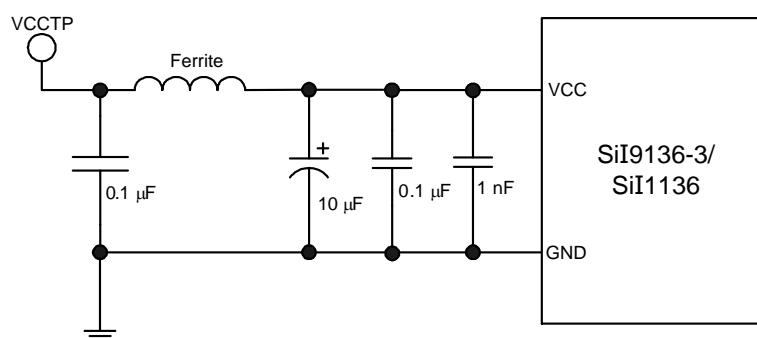

Figure 4.1. VCCTP Test Point for VCC Noise Tolerance
*Note: The supply voltage noise is measured at test point VCCTP. See Figure 4.1. The ferrite bead provides filtering of power supply noise. The figure is representative and applies to the IOVCC33, CVCC12, and AVCC pins.